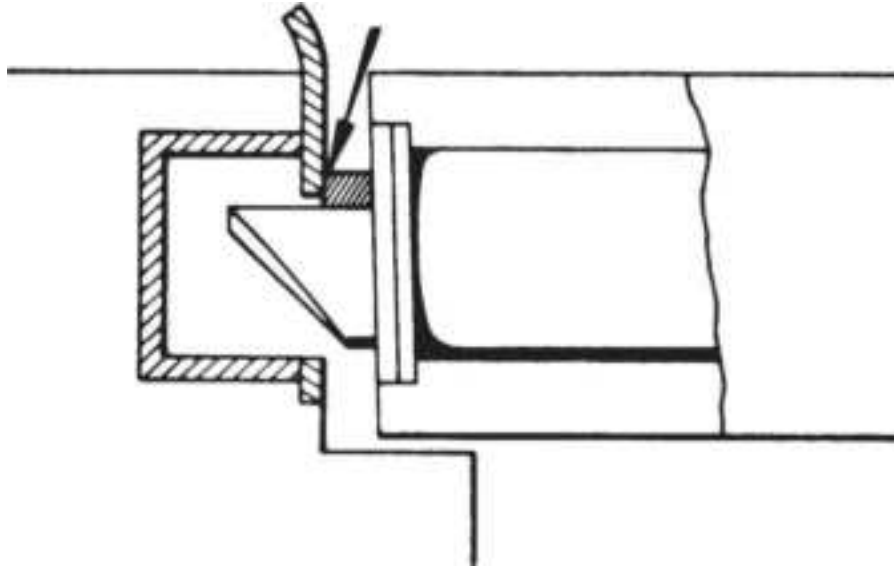

**Figure 13.7** Latchbolt will not deadlock.
***Problem 1: Latchbolt will not deadlock.*** Caused by deadlocking latch going into strike. Either the strike is out of line or the gap between the door and jamb is too great. Realign the strike or shim the strike out towards the flat area of the latch-bolt (Fig. 13.7 ).